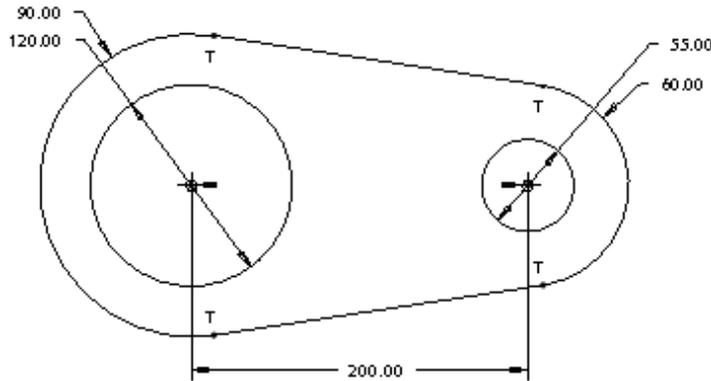

Figure 2-38 Complete sketch with dimensions and constraints
- c. Dimension the sketch and then modify the dimensions of the sketch, refer to Figure 2-38.
The completed sketch is shown in Figure 2-38.